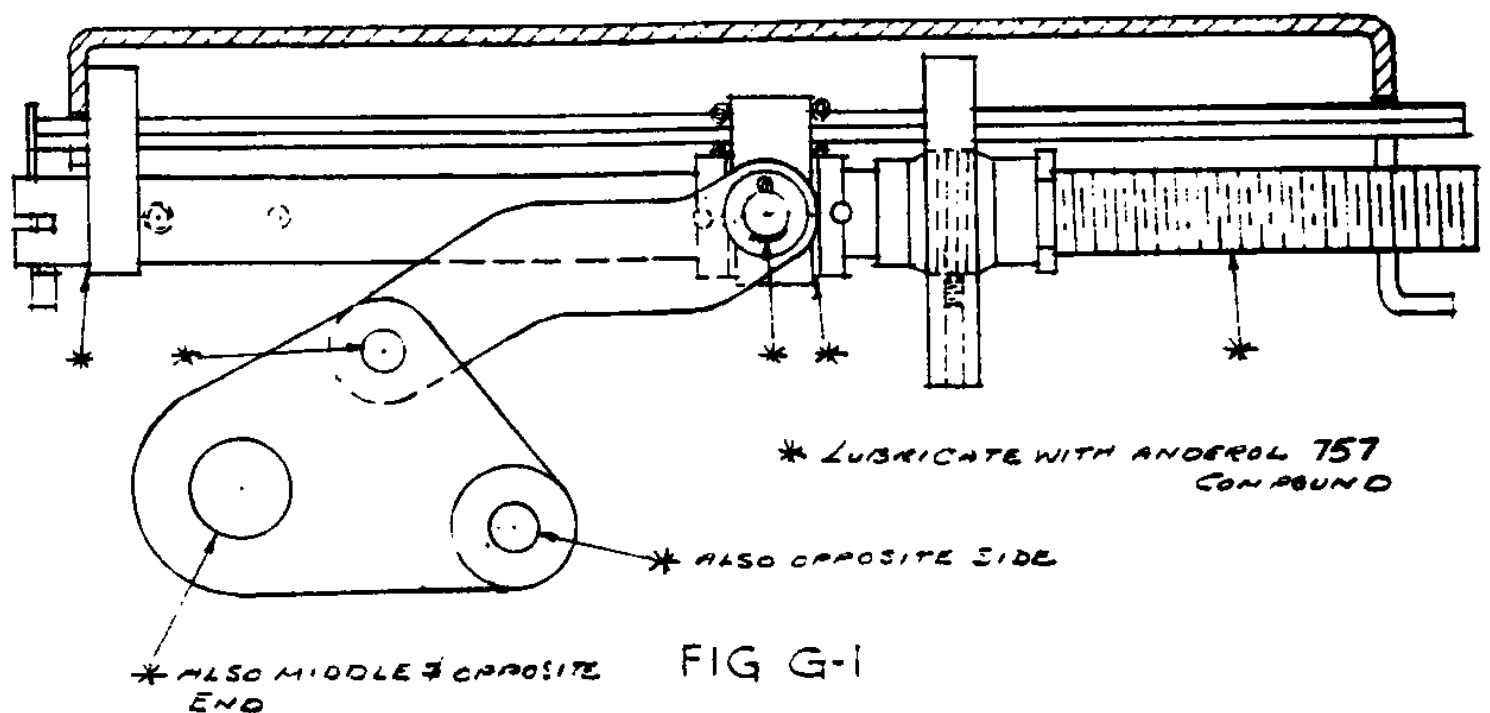

FIG G-1
- All moving parts shall be lubricated with Anderol 57 as shown in Fig. G-1. Refer to Lubrication Section N, Paragraph 1.